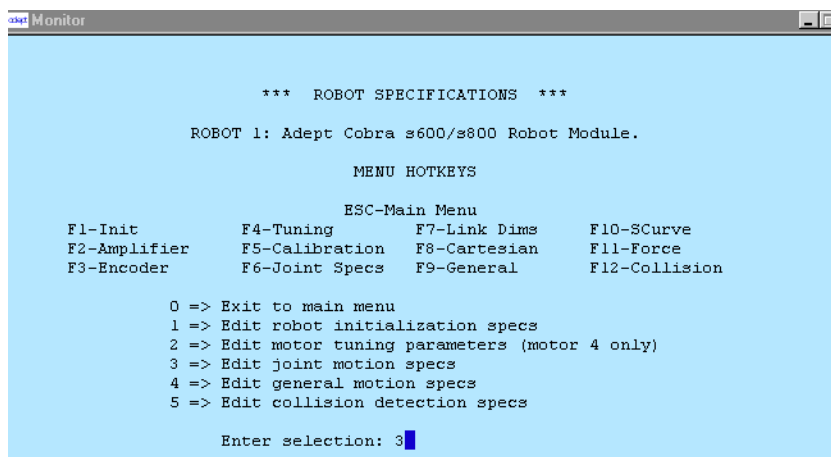

Figure 6-16. Robot Specs Menu
3. In the next menu, select option 3 => Edit joint motion specs. See Figure 6-16.
3. In the next menu, select option 3 => Edit joint motion specs. See Figure 6-16 on page 86.